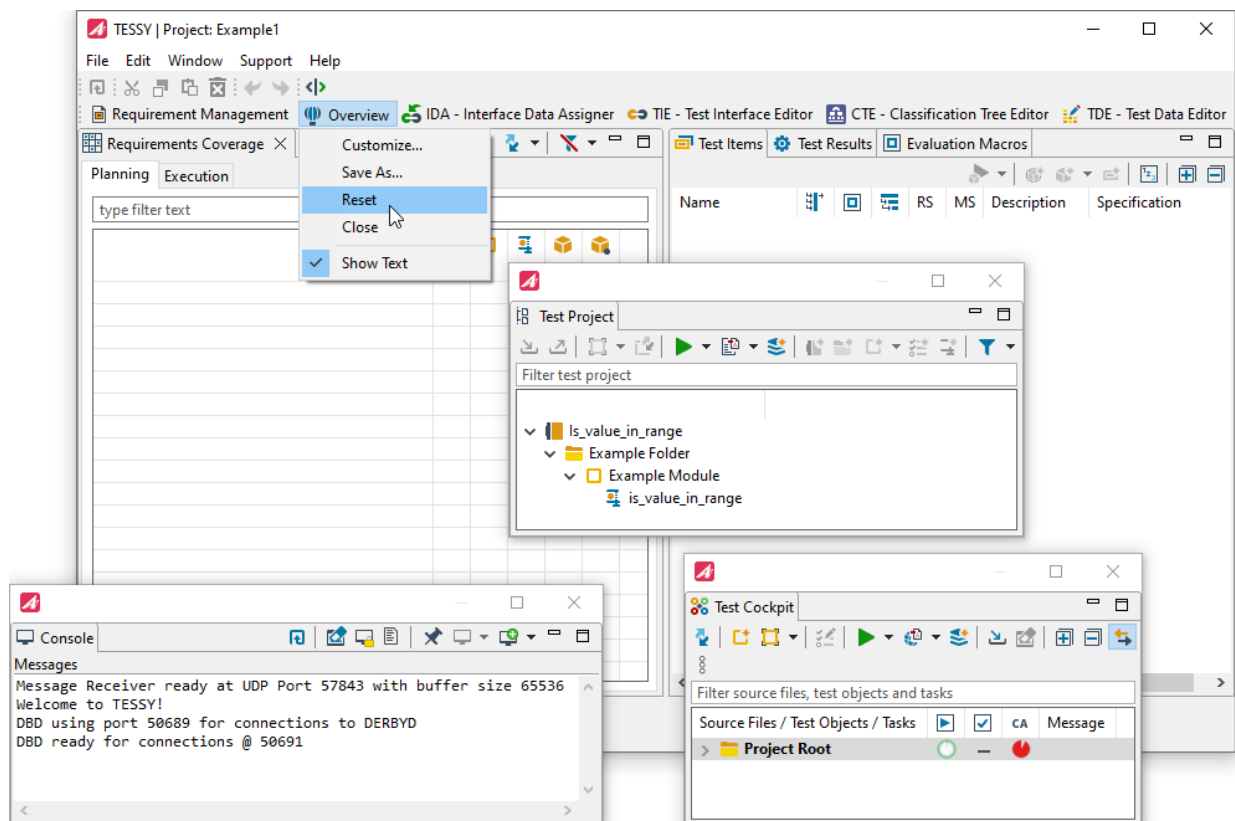

Figure 4.13: Move the views separately. To switch back, use “Reset”
- Right-click on the perspective switch and choose “Reset” to switch back to the original positions of all views of the respective perspective (see figure 4.13).